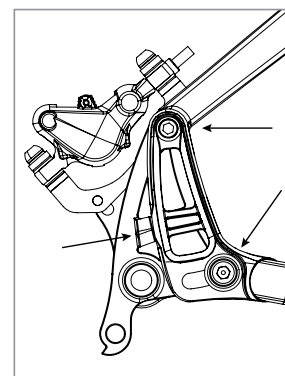

Figure 4
1. Slightly loosen the upper pivot bolts and the lower fixing bolts on both the driveside and non-driveside dropouts (fig 4).
2. Install and secure the rear wheel properly into the dropouts (fig 4).
1. Tighten the upper fixing bolts and both lower fixing bolts to 8Nm (fig 4).
3. If present, tighten both tension screws 1/8 turn to prevent them from rattling out during use (fig 4).